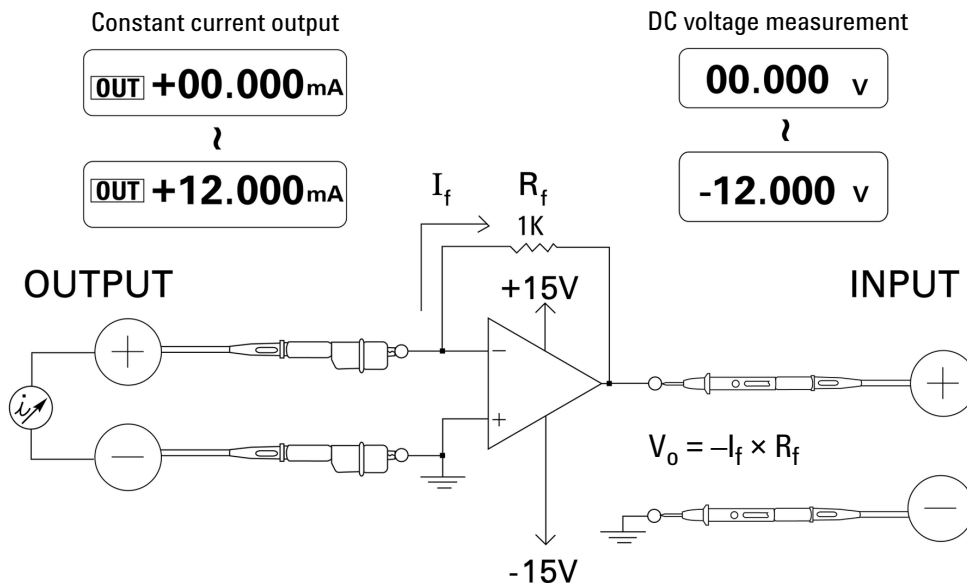

Figure 5-13 Current-to-voltage converter
An ideal operational amplifier can act as a current-to-voltage converter. In Figure 5-13, the ideal operational amplifier maintains its inverting input terminal at earth potential and forces any input current to flow through the feedback resistor. Thus $I_{in} = I_f$ and $V_o = -I_f \times R_f$. Notice that the circuit provides the basis for an ideal current measurement; it introduces zero voltage drop into the measurement circuit and the effective input impedance of the circuit as measured directly at the inverting input terminal is zero.
- 5 Connect the operational amplifier as shown in **Figure 5-13**.